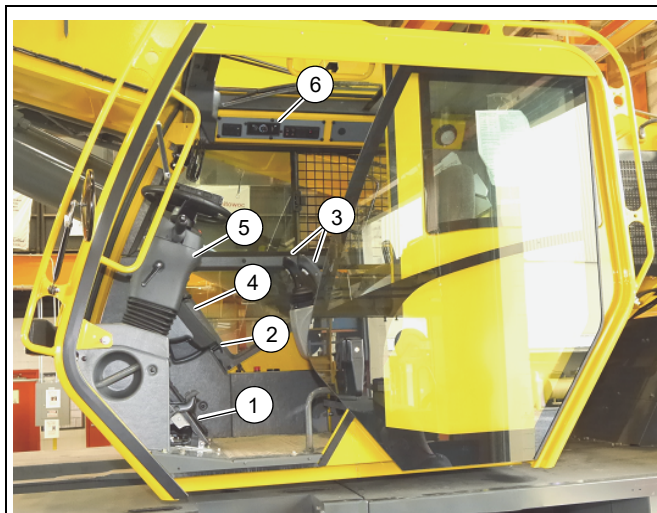
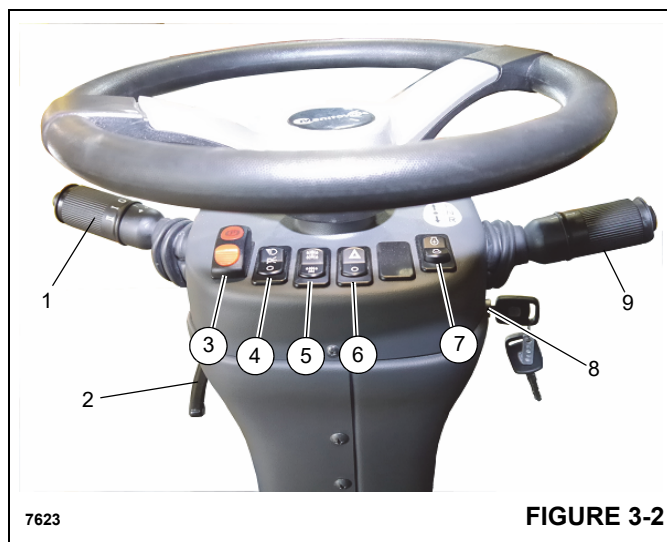

FIGURE 3-1
FIGURE 3-2
All controls and indicators to operate and monitor crane functions are found inside the crane cab (Figure 3-1).
The steering column assembly (5) (Figure 3-1) is a pedestal style tilt and telescoping steering column. It can tilt rearward 30° or raise vertically 60 mm (2.3 in). It includes the ignition switch and other control switches (Figure 3-2).
Turn Signal Lever and Windshield Wiper/washer Controls (1) Figure 3-2 are located on left side of steering column. Pushing turn signal lever down causes left front and left rear turn signals to flash. Pushing turn signal lever up causes right front and right rear turn signals to flash.
Rotate joystick (2) Figure 3-2 down to lock steering column in place. Rotating lever up releases steering column for adjustment.
Park Brake Control Switch (3) Figure 3-2 is located on front of steering column. This two-position rocker switch (ON/OFF) is used to apply and release the parking brake on the drive line. The red Park Brake Indicator light on the display is illuminated when pressure switch in the brake release system is activated and brake is applied.
The Headlights Switch (4) Figure 3-2 is located on the front of the steering column. This three-position rocker switch (OFF/Park/Headlight) controls operation of the instrument lights, switch LEDs, and the marker lights on the front, rear, and side of the crane. The switch is illuminated when the key is in the ON or Start position.
Drive Axle Selector Switch (5) Figure 3-2 is located on front of the steering column and is illuminated when key is in the ON or Start position. This two-position rocker switch is used to select two-wheel drive (high range) or four-wheel drive (low range).
Hazard Lights Switch (6) Figure 3-2 is located on front of the steering column and is a two-position rocker switch (ON/OFF). When switch is positioned ON, four turn signal lights and turn signal indicator lights on steering column flash at the same time.
The Engine Speed Increase/Decrease Switch (7) (Figure 3-2) is a three position momentary rocker switch with center maintained position being off. Use this switch to adjust engine speed (RPM). Press top or bottom of the Engine Speed Increase/Decrease Switch to increase or decrease low engine idle.
The Ignition Switch (8) Figure 3-2 is located on the right side of the steering column and under the transmission shift lever (9). The switch is key-operated and has three positions: OFF [0], RUN [1], and START [2].
The Transmission Shift Lever (9) Figure 3-2 is located on the right side of the steering column. The control lever operates the transmission selector valve electrically. Positioning the